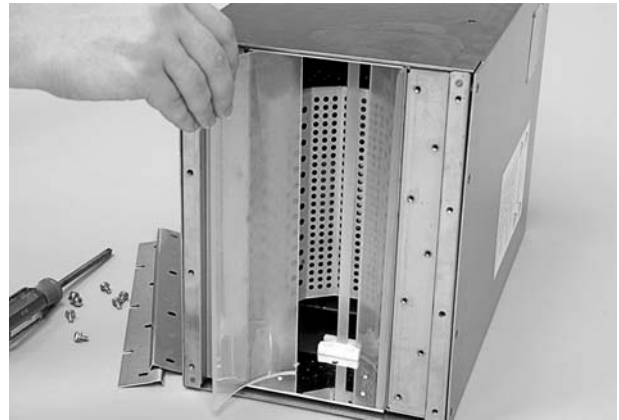

Figure 4-4 Reflector Replacement
6. See Figure 4-4. Carefully slide the two reflectors from the lamphead base.